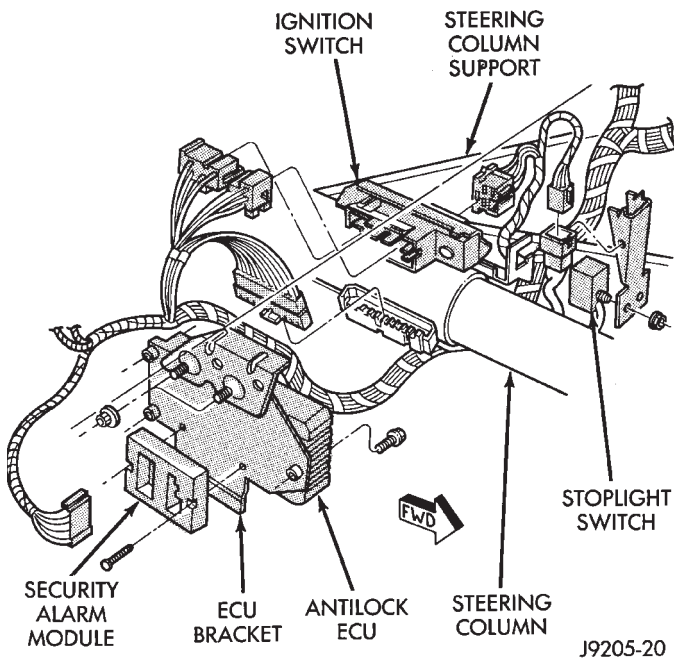

Fig. 12 Antilock ECU Mounting (XJ)
- (1) Turn ignition key to Off position.
- (2) Remove screws attaching ECU to mounting bracket (Fig. 12).
- (3) Disconnect ECU wiring harness.
- (4) Remove ECU.